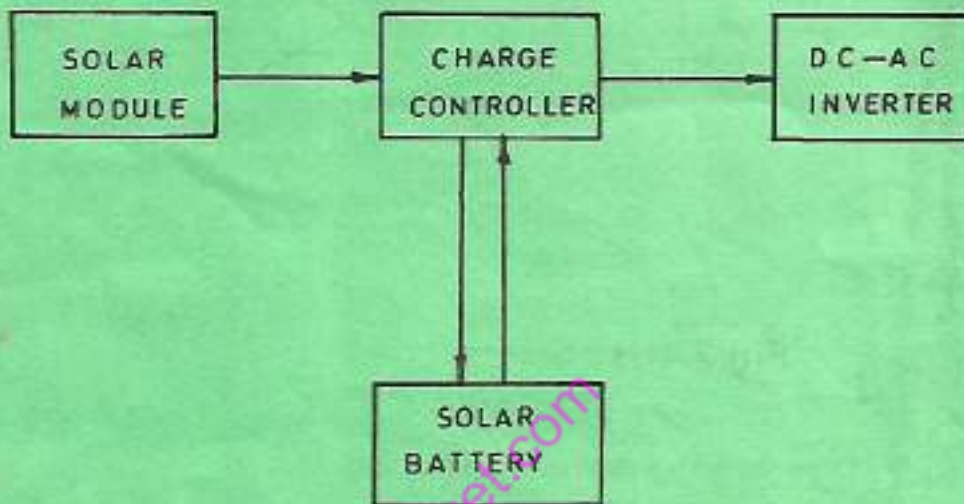

Fig.2 (a)
2. (a) Figure 2 (a) shows a layout of a solar electric installation. The solar charge controller and inverter are pre-installed.